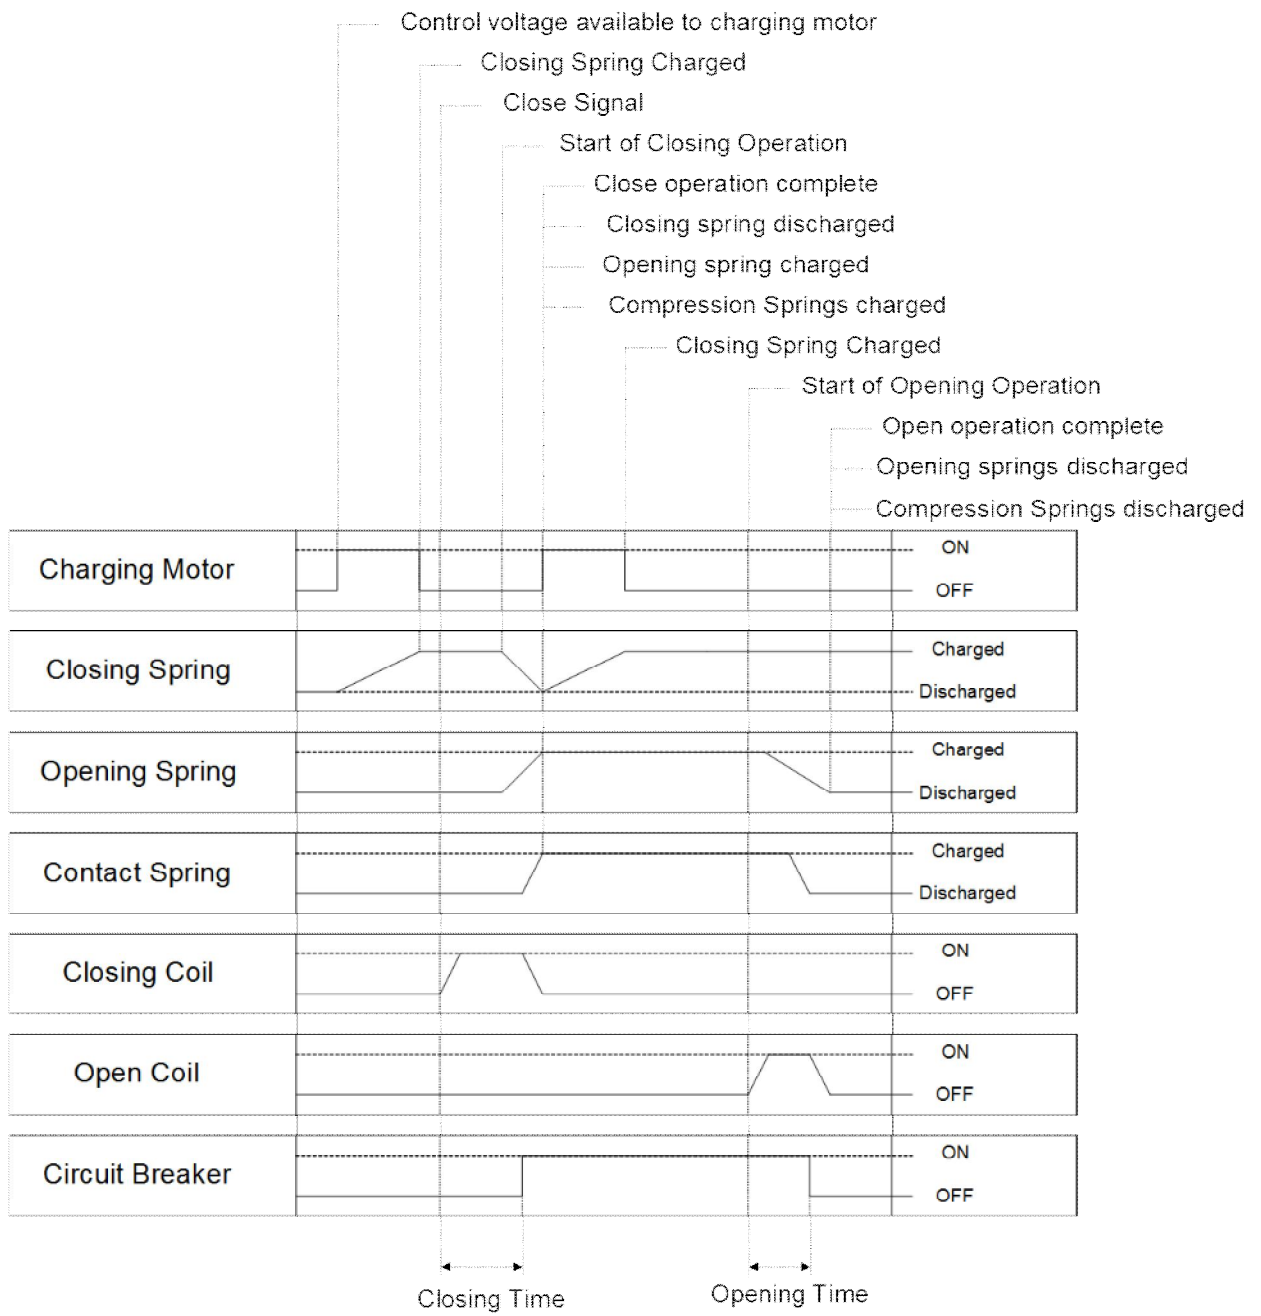

Figure 3: Sequence of Circuit Breaker Operation (not to scale)
ADVAC™ circuit breakers are available with two control packages. The standard package (see Appendix D) includes charge (MS), close (MC), and open (MO) functions, and 4a and 4b auxiliary contacts for customer use. The optional package (see Appendix D) adds to the standard package 5a and 4b auxiliary contacts for customer use as well as an optional second open/trip coil (MO2) and/or under voltage (MU) open/trip device if required. Refer to wiring diagrams in Appendix D and Figure 3 on the next page.